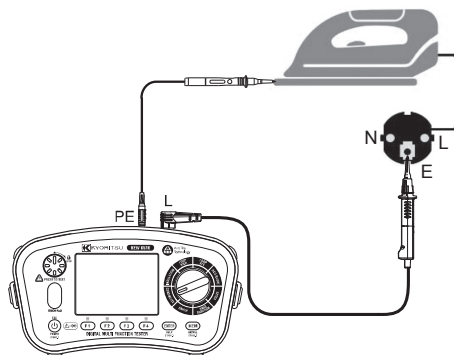

Fig.8-6
- (2) Make connections as Fig. 8-6 shows to check continuity.